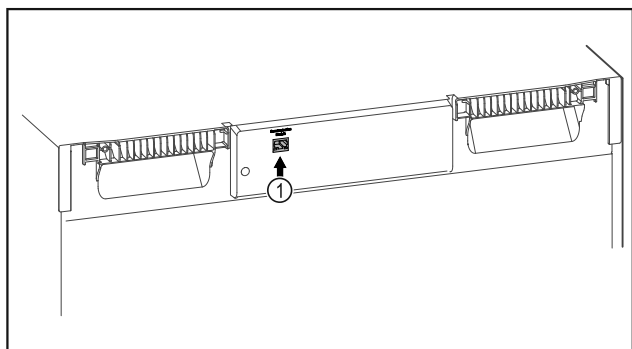

Fig. 84
- SmartModule Fig. 84 (1) is in use.